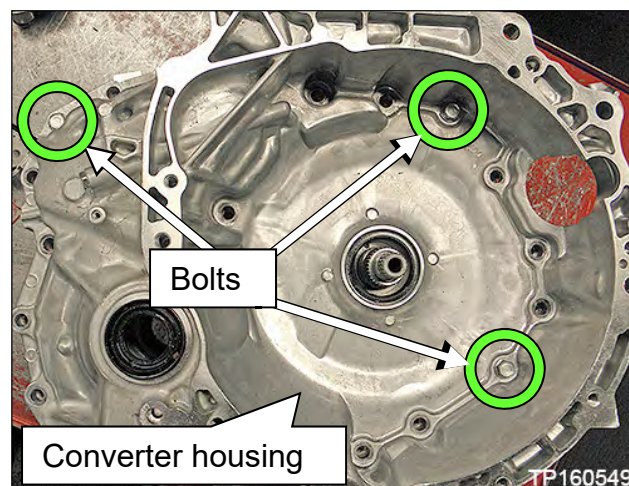

Figure 64
47. Temporarily install the converter housing onto the CVT case with three bolts finger tight (Figure 64).